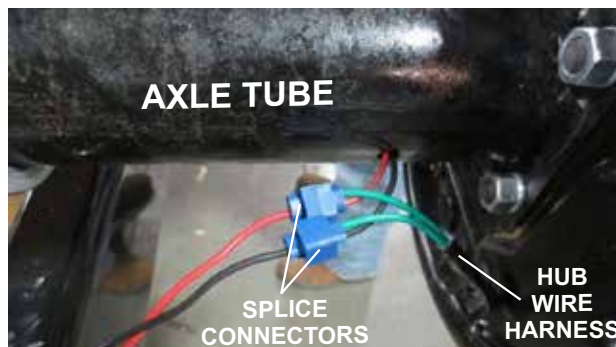

Figure 16. Street-Side Wiring
There are two wires extending from the axle tube as shown in Figure 16, connect these wires as follows:
Wire colors may be different than those shown in Figure 16.
- Using splice terminal connectors (P/N 19761), attach the two wires coming from the axle tube to the two wires coming from the hub wire harness (Figure 16).